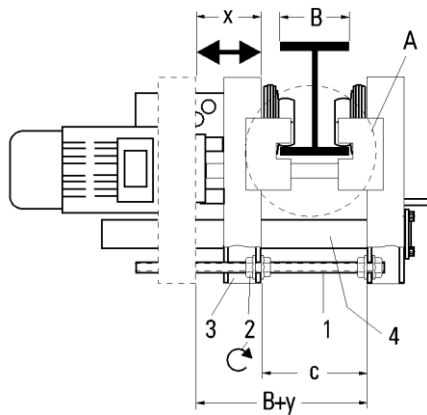

Figure 3-6 Trolley Hoist Clearances 2 Ton – 10 Ton
- 3) Before attempting to install the trolley hoist, verify beam width and the “c” dimension (see Figure 3-6). See Table 3-1 for dimensions respective values. Adjust flange width if necessary. (See Section 3.4.2)
Fit drive shaft in mounting position X3 or X4 depending on flange width (B) of the runway beam and length (L) of drive shaft (D). Install snap rings (S). See Figures 3-6, 3-7, 3-8, and 3-9. Also see Tables 3.2 and 3.3.